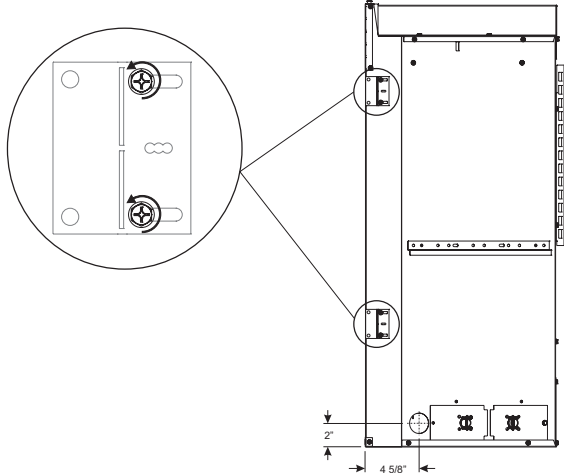

Figure 26
5. Loosen but do not remove the eight screws securing the nailing flanges to the firebox. **See Figure 26.**